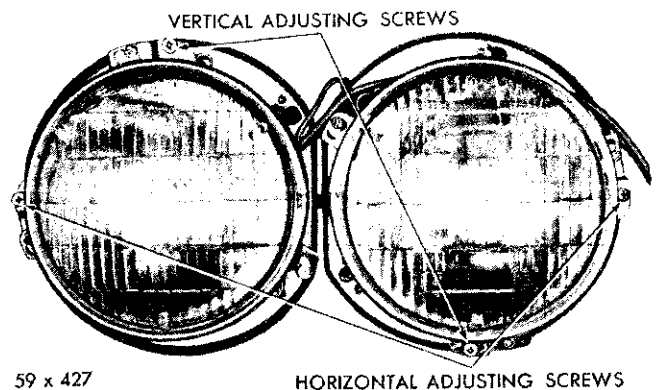

Fig. 42—Adjusting Headlamps (Typical)
**81. ADJUSTING THE HEADLAMPS (Fig. 42)**